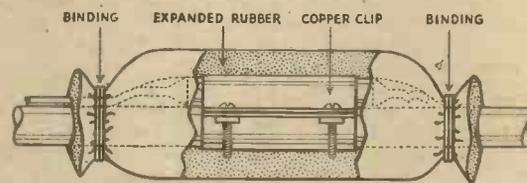

Fig. 16.—Thermal bulb.
*Plant runs but does not freeze.*—Choked filter, shortage of refrigerant. Valve flooded, check for overcharge. Valve starved, check for undercharge. Thermal bulb not clamped to evaporator, not insulated, or loose (see Fig. 16). The position of the thermal bulb is most important and should be clamped to the suction line approximately 1ft. for domestic, 4ft. for commercial, inside the refrigerated space, from the exit position of the suction line. Inefficient compressor. Belt slipping. Moisture in system, usually denoted by ball of frost round valve. Collapsed thermal element; warm thermal bulb and note if suction pressure rises, if not element has collapsed. Make certain filter is not choked. If a gas-charged valve, warm bellows casing; if pressure rises, remove valve to a warmer position or replace with liquid-charged type.